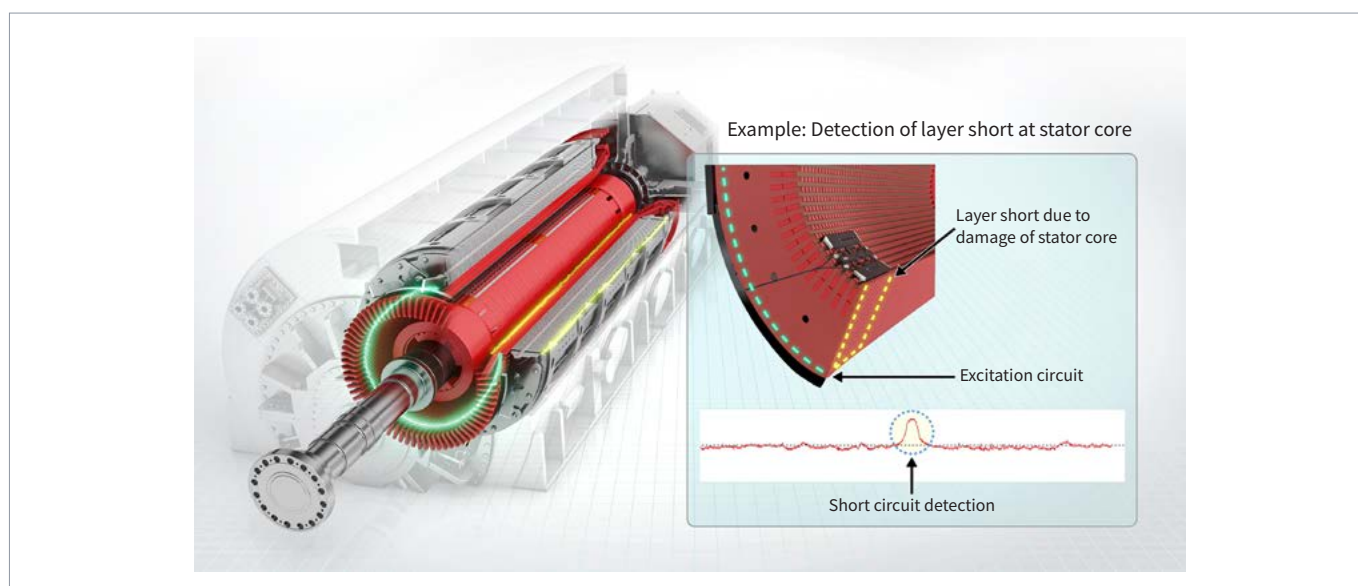

Figure 5. EL-CID Test
**help avoid serious accidents, and it can be effective in identifying core issues prior to major damage during operation.** An image of an EL-CID test and an example of a detection of layer short are shown in Figure 5.